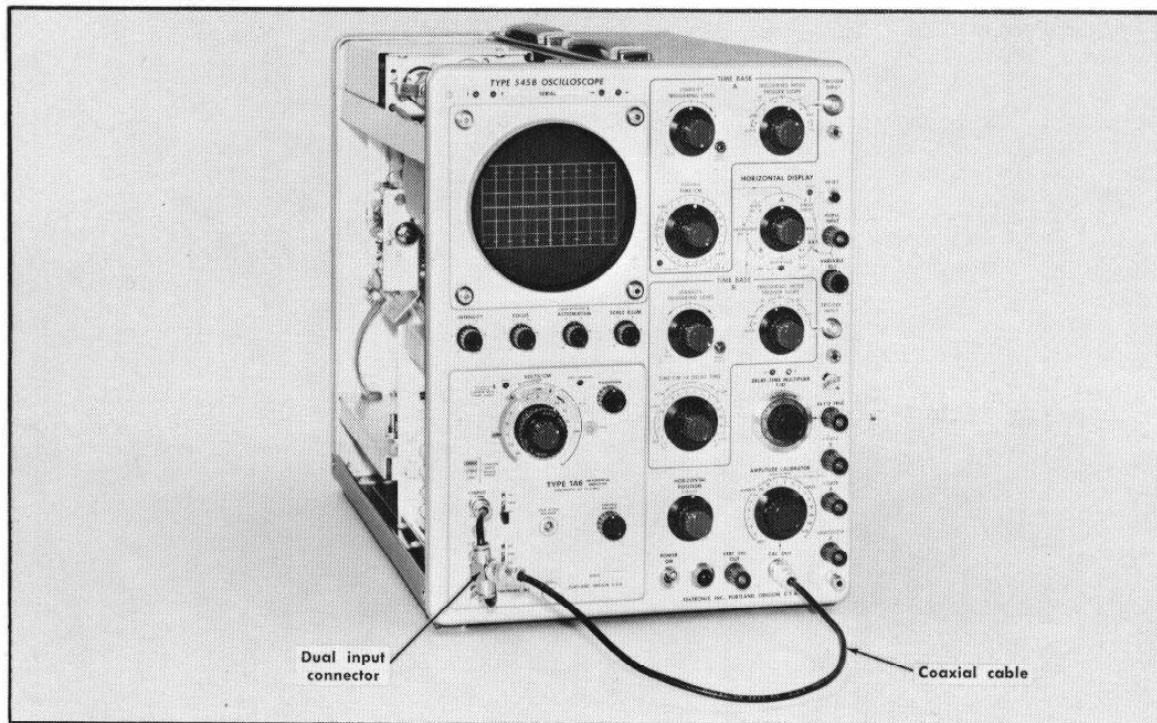

Fig. 6-21. Equipment setup for step 15.
- a. Equipment setup is shown in Fig. 6-21.